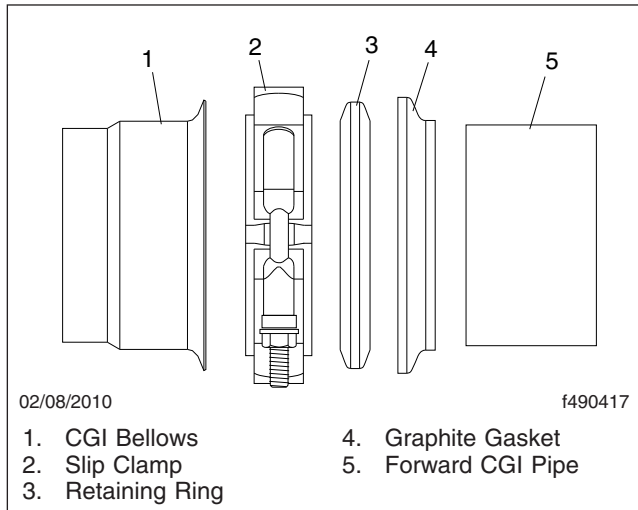

Fig. 12, Forward Facing Slip Clamp Installation
13. Install the slip clamp with the retaining ring and graphite gasket ring onto the forward CGI pipe. See Fig. 12 for proper installation.